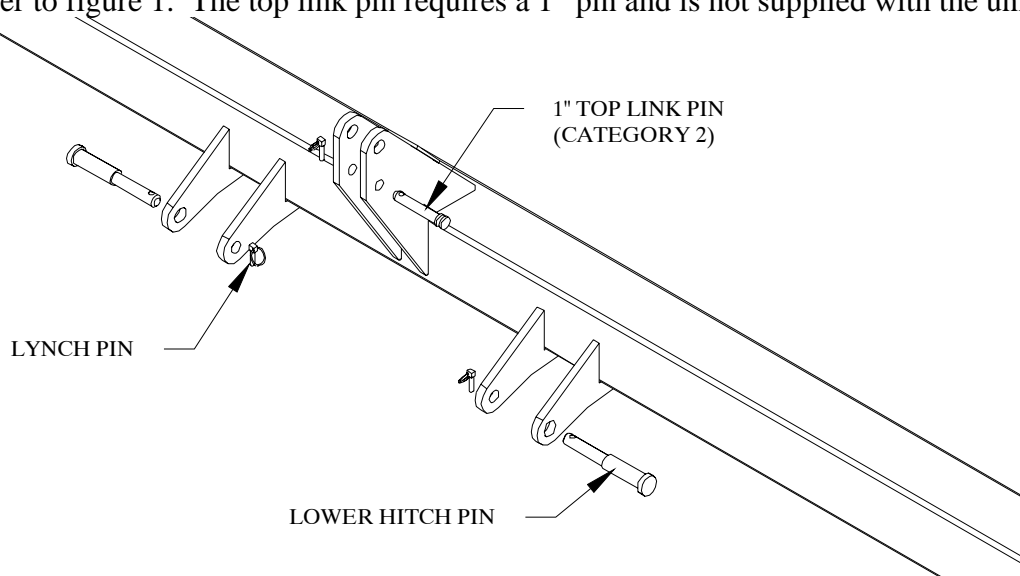

Figure 1
1. Attach the Front Center Tool bar to the tractor using the 1 1/8" x 8 1/2" hitch pins in the lower brackets. Refer to figure 1. The top link pin requires a 1" pin and is not supplied with the unit.